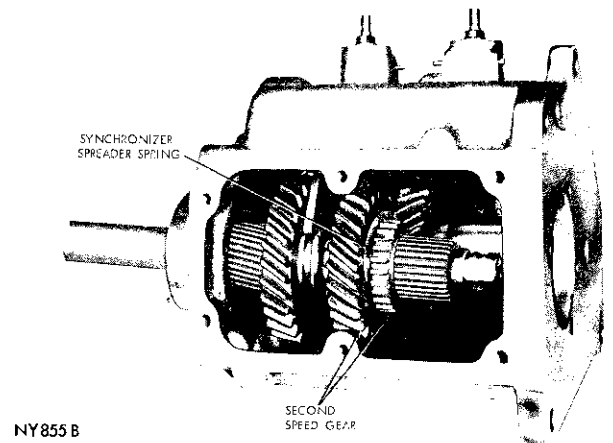

Fig. 22—Mainshaft Assembly
(4) Slide the second speed gear, stop ring and the synchronizer spring off the mainshaft (Fig. 22).